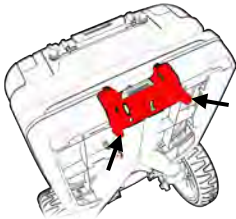

Figure 56
- Bring the two parts together. Use the hanging hooks (see Figure 56) to align the two ends properly. At this point the central release button will click.